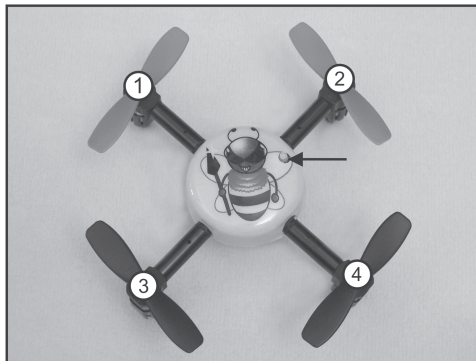

Figure 11
To replace a rotor, pull the damaged rotor from the motor shaft and replace it with a new one. The rotors must not be pushed completely onto the motor shaft. Keep about 0.5 mm distance from the motor housing. Figure 11 shows the place where the rotor must be attached.
The front motors (figure 11, items 1 and 2) are at the „front“ for this model and must have red rotors. Motor 1 turns counter clockwise, motor 2 turns clockwise.
The rear motors (figure 11, items 3 and 4) must have black rotors. Motor 3 turns clockwise, motor 4 turns counter clockwise.